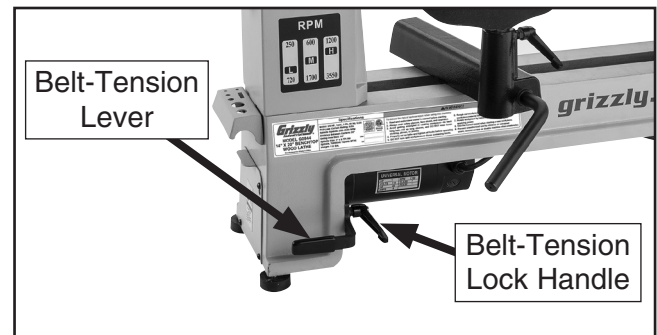

Figure 22. Location of belt-tension lever.
2. Loosen belt-tension lock handle (see **Figure 22**).
3. Use belt-tension lever (see **Figure 22**) to lift motor assembly all the way up, then re-tighten belt-tension lock handle—this will hold motor in place while you change belt position.